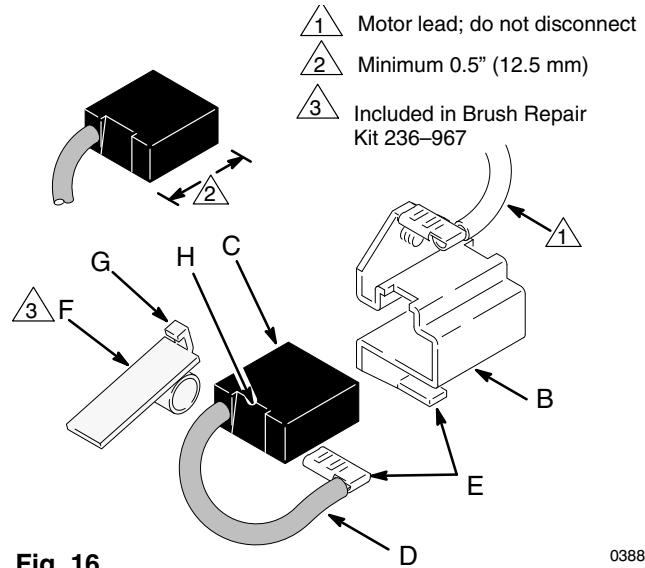

Fig. 16
2. Push in the spring clip (F) and release its hook (G) from the brush holder (B). Pull out the spring clip. See Fig 16.
3. Slide off the brush lead terminal (E) off the blade connector. Remove the old brush (C). See Fig 16.
6. Place a new brush (C) in the holder (B) so the ramp (H) faces the spring. See Fig. 16.